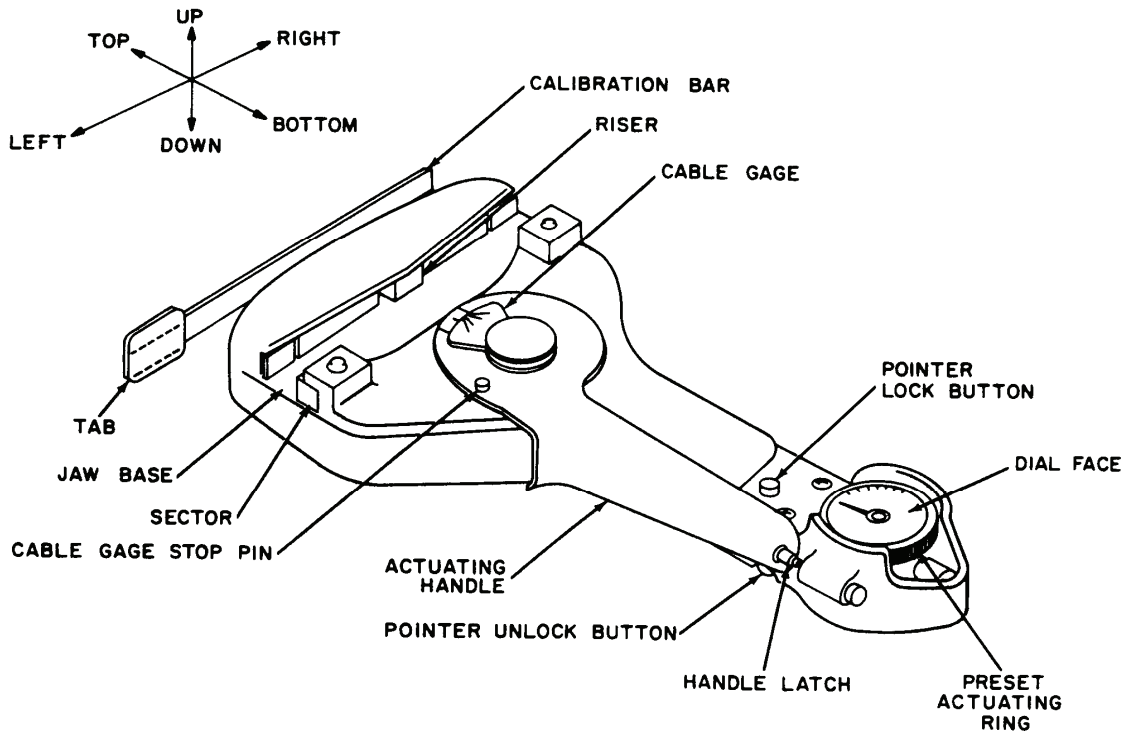

Figure 1. Dial indicating tensiometer (typical).
c. Rotate cable size-gage ccw against stop pin (fig. 1).
e. Compress TI actuating handle and insert calibration bar into jaws with calibration bar tab to left (fig. 1).
The actuating handle is retained by a handle latch. When actuating handle is compressed, handle latch is automatically released downward. To relatch, compress handle against side of frame and push handle latch upward into detent in actuating handle. Then slowly release hand compression (fig. 1).
- (1) Rotate knurled rim of indicator dial on TI until pointer indicates the cable diameter being used.
- (2) Rotate cable size-gage on TI ccw against the stop pin.
- (3) Increase tension on cable by adding weights from balance weight sets or standard weight set to hanger assembly until total weight (tare weight plus added weight) equals 25 pounds.
- (4) Apply TI to cable by compressing actuating handle and making certain that cable is aligned in the jaws and against jaw base (fig. 1).
- (5) Slowly release compression until riser block and sectors (fig. 1) are firmly gripping cable. Release compression entirely.